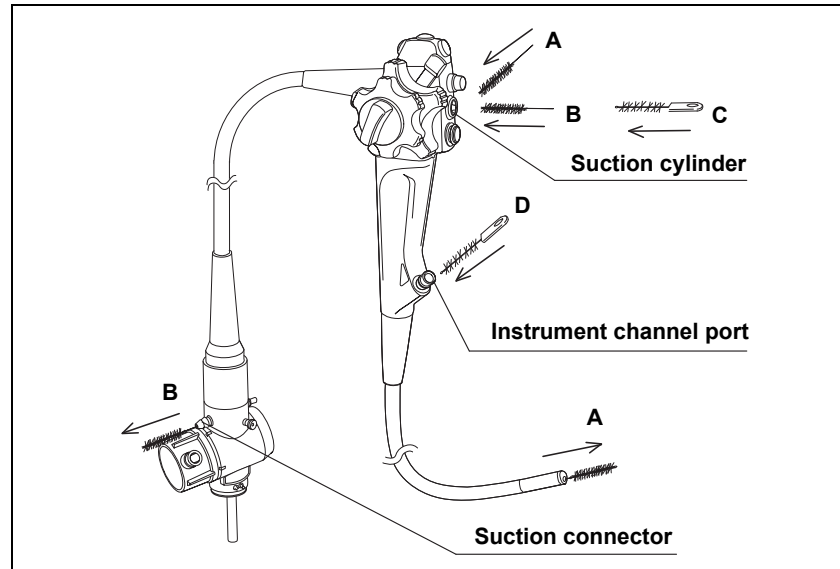

Figure 3.22
While the endoscope is submerged, brush the instrument and suction channels, suction cylinder and instrument channel port according to the following procedures (see Figure 3.22).
2. Insert the channel cleaning brush (BW-20T) at a 45° angle into the opening located in the side wall of the suction cylinder as illustrated by A in Figure 3.22. Using short strokes, feed the brush through the insertion tube until it emerges from the distal end of the endoscope.
2. Insert the channel cleaning brush (BW-17K) at a 45° angle into the opening located in the side wall of the suction cylinder as illustrated by A in Figure 3.22. Using short strokes, feed the brush through the insertion tube until it emerges from the distal end of the endoscope.
2. Insert the channel cleaning brush (BW-20T) straight into the opening of the suction cylinder as illustrated by B in Figure 3.22. Using short strokes, feed the brush through the universal cord until it emerges from the suction connector on the endoscope connector.
1. Insert the channel-opening cleaning brush into the suction cylinder as illustrated by C in Figure 3.22, until half of the brush section is inserted.
1. Insert the channel-opening cleaning brush into the instrument channel port until the brush handle touches the channel opening as illustrated by D in Figure 3.22.